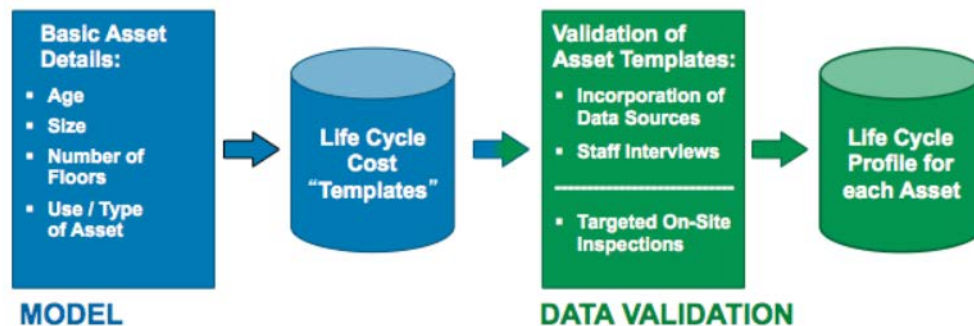

Figure 1: Data Development Process
The Kentucky Department of Education utilizes Ameresco’s Data Development process (outlined in **Figure 1** below) to capture and maintain capital renewal needs for the buildings within **AssetPlanner™**.
- Pre-loaded cost values come from the model templates and reflect general assumptions based on basic asset details (refer to *Figure 1: Data Development Process* above). The model values are provided for reference purposes only. **It is expected that the assessor will update all cost values based on their own experience and professional opinion.**